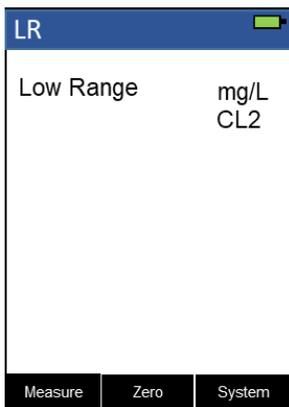
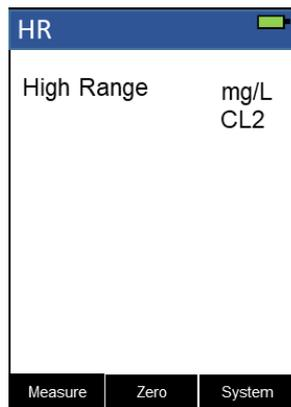

Figure 8 Chlorine mode-LR
Figure 9 Chlorine mode-HR
When powered on, the SP-208 defaults to Chlorine mode (Figure 8 and Figure 9). To switch from Chlorine mode to pH/ORP mode, press **Measure** ().
1. Press **Measure** (◀) to select the test range (Figure 8 and Figure 9).